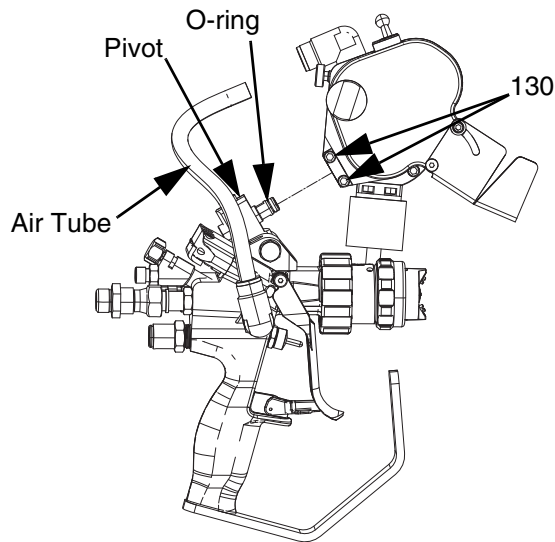

FIG. 4
- Use a crescent wrench to install the new elbow fitting (158) and the 3/8 in. air tube (160) where Fitting A was removed.
- If necessary, use a crescent wrench to adjust the pivot so that it is parallel to the gun front with the open end pointing to the front of the gun. See **Figure 4**.
- Back out the screws (130). See **Figure 4**.
NOTE: Ensure proper engagement of the o-ring into the cutter assembly. Verify that there is no excess air leakage because it will greatly reduce the performance of the air motor. See **Figure 4**.